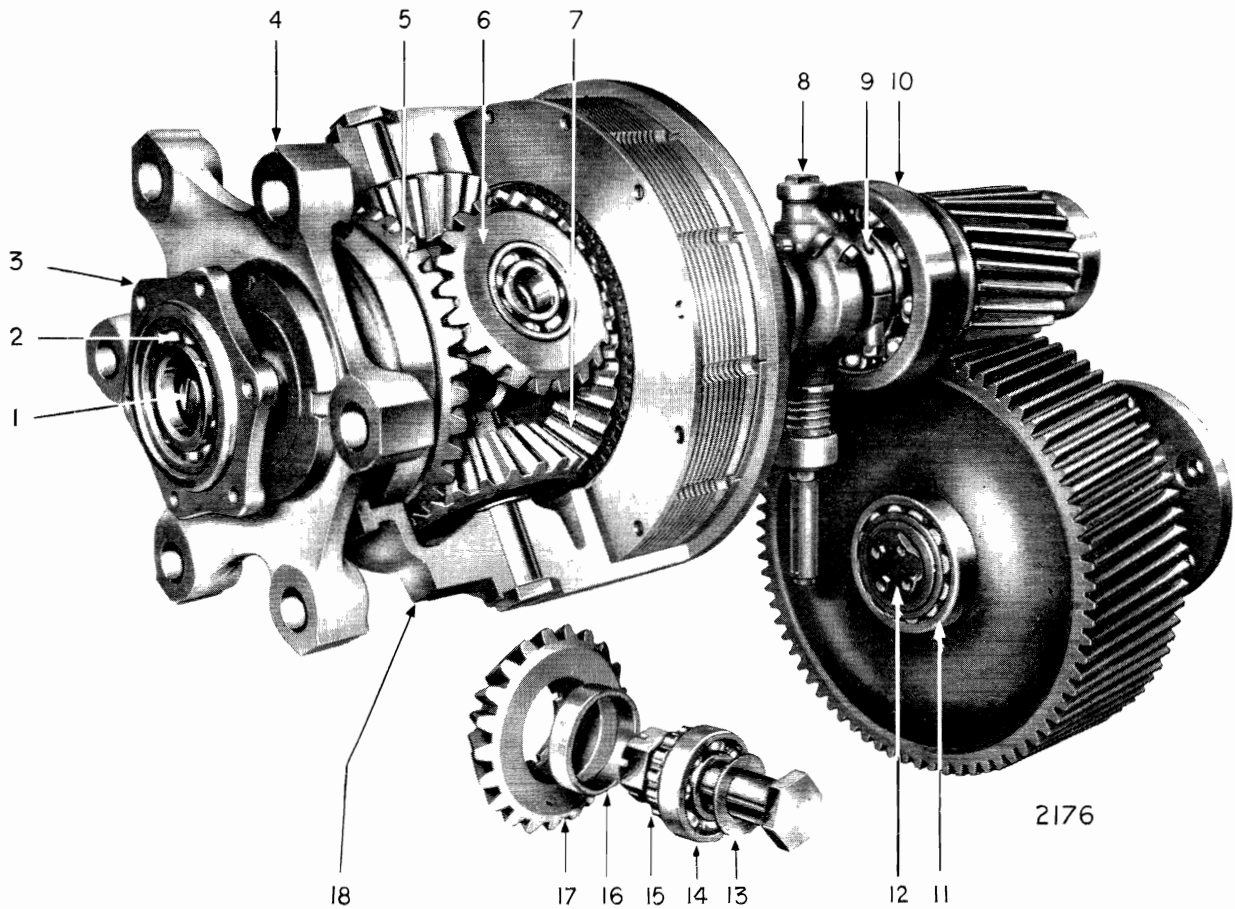

Fig. 6
26. **Completing the Mainshaft Assembly.**—When fitting a replacement mainshaft or a new flywheel-end ball bearing (Item 2, Fig. 6) check before assembly that the inner race of the bearing is a correct fit on the mainshaft.
Fit the lubricating pump eccentric on the mainshaft and lock in position with setscrew. Check that the lubricating oil hole in the eccentric coincides with the oil hole in the shaft; **this is vitally important.** Screw the locating collar (Item 9 Fig. 6) on to the mainshaft and position so that its aft face is  $23\frac{3}{8}$  in. from the forward face of the driving spider lugs. This will ensure a clearance of  $\frac{1}{8}$  in. between the driving spider and the aft face of the flywheel on final installation in the reverse gear case. This clearance is necessary to allow for linear expansion of the running gear.